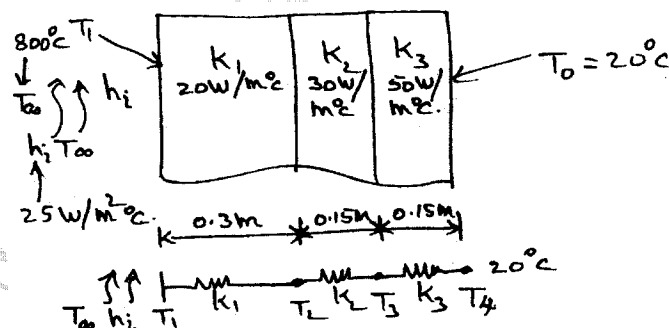

Fig.Q8
- 8 A composite wall shown in Fig.Q8 consists of three materials. The outer temperature  $T_0$  is  $20^\circ\text{C}$ . Convective heat transfer takes place on the inner surface of the wall with  $T_\infty = 800^\circ\text{C}$ . The convective heat transfer coefficient  $h_i$  is  $25 \text{ W/m}^2\text{C}$ . Determine the temperature distribution in the wall.